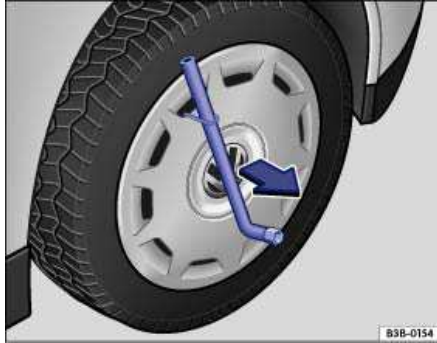

Fig. 194 Pulling the wheel cover off.
- Slide the lug wrench through the clip ⇒ fig. 194 and pull the wheel cover off in the direction of the arrow.